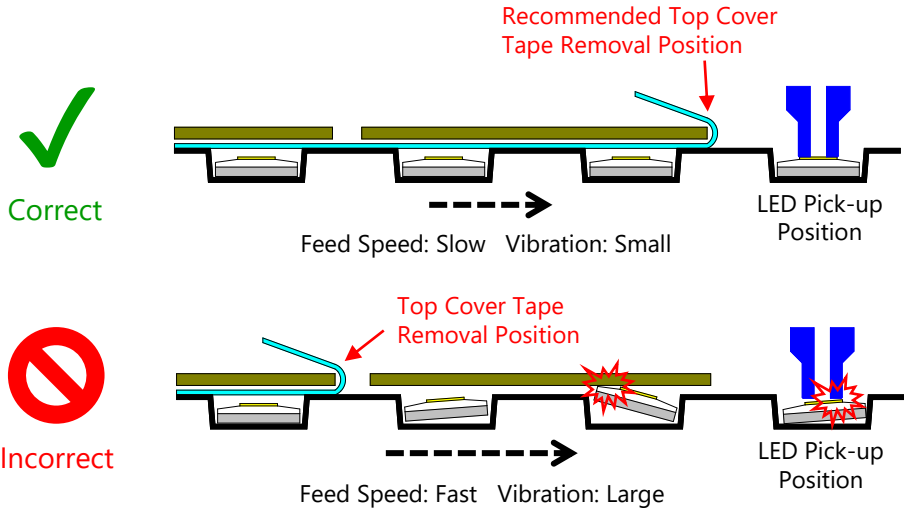

Figure 4. Top Cover Tape Removal Position
3. It is recommended to remove the top cover tape at the recommended position shown in Figure 4 (i.e. immediately before LED pick-up).